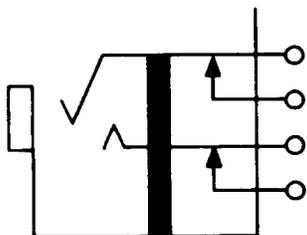

Fig. 22—572A or C Jack
**2.22 572A and C:** These single-mounted jacks (Fig. 22) are heavily insulated and have bifurcated "break" contacts and solderless wrap terminals. These jacks are designed to be used with the 150, 184, 202, 213, 262, 310, 320, 331, and 338 type plugs. These jacks are intended to be mounted with the springs in a vertical plane. These jacks are used with the DDD-Type Toll Offices.